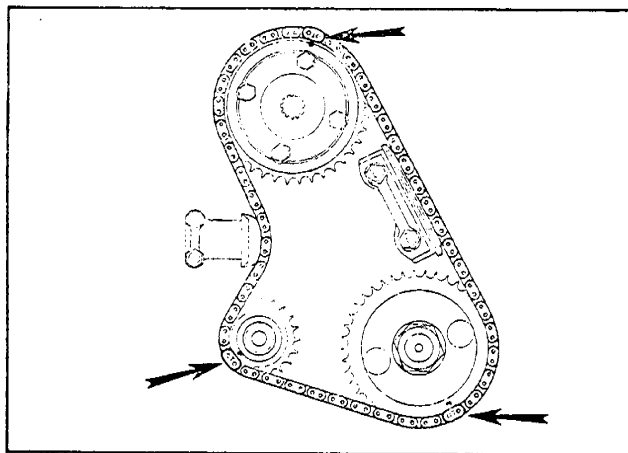

Fig. 4
- b. Assemble the chain wheels and chain to their shafts with the timing marks as shown in Fig. 4
- d. Assemble the chain and chain wheels to their shafts with the timing marks as shown in Fig. 4 .